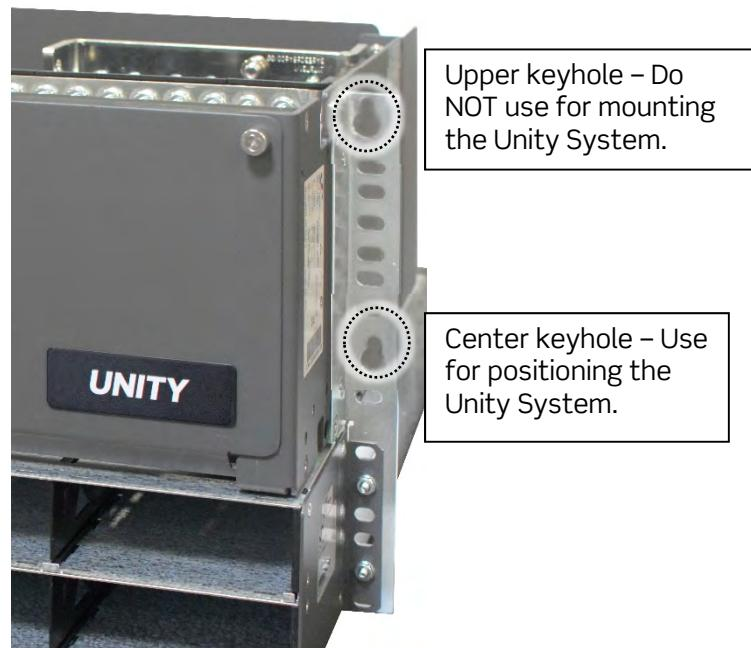

Figure 29 – Mounting Brackets
1. Lift the system up to the desired location in the rack. Use the center keyholes of the mounting brackets to position the system, in order to install the mounting screws (see Figure 29).